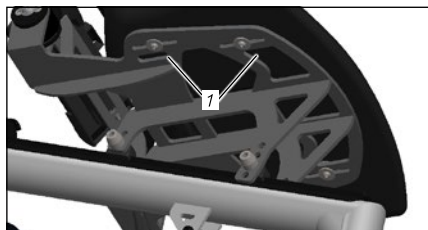

Fig.:10
2. Move the seat cushion forwards or backwards within the slotted holes ("Fig.:10 (1)").